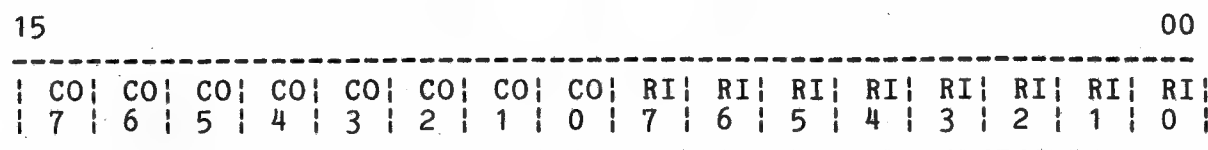

Figure 5-5 Modem Status Register - (MSR)
The read-only Modem Status Register (Figure 5-5) contains two bytes. The low byte monitors and contains the status of each line's Ring Indicator (RI) lead. The high byte monitors and contains the status of each line's Carrier (CO) lead.